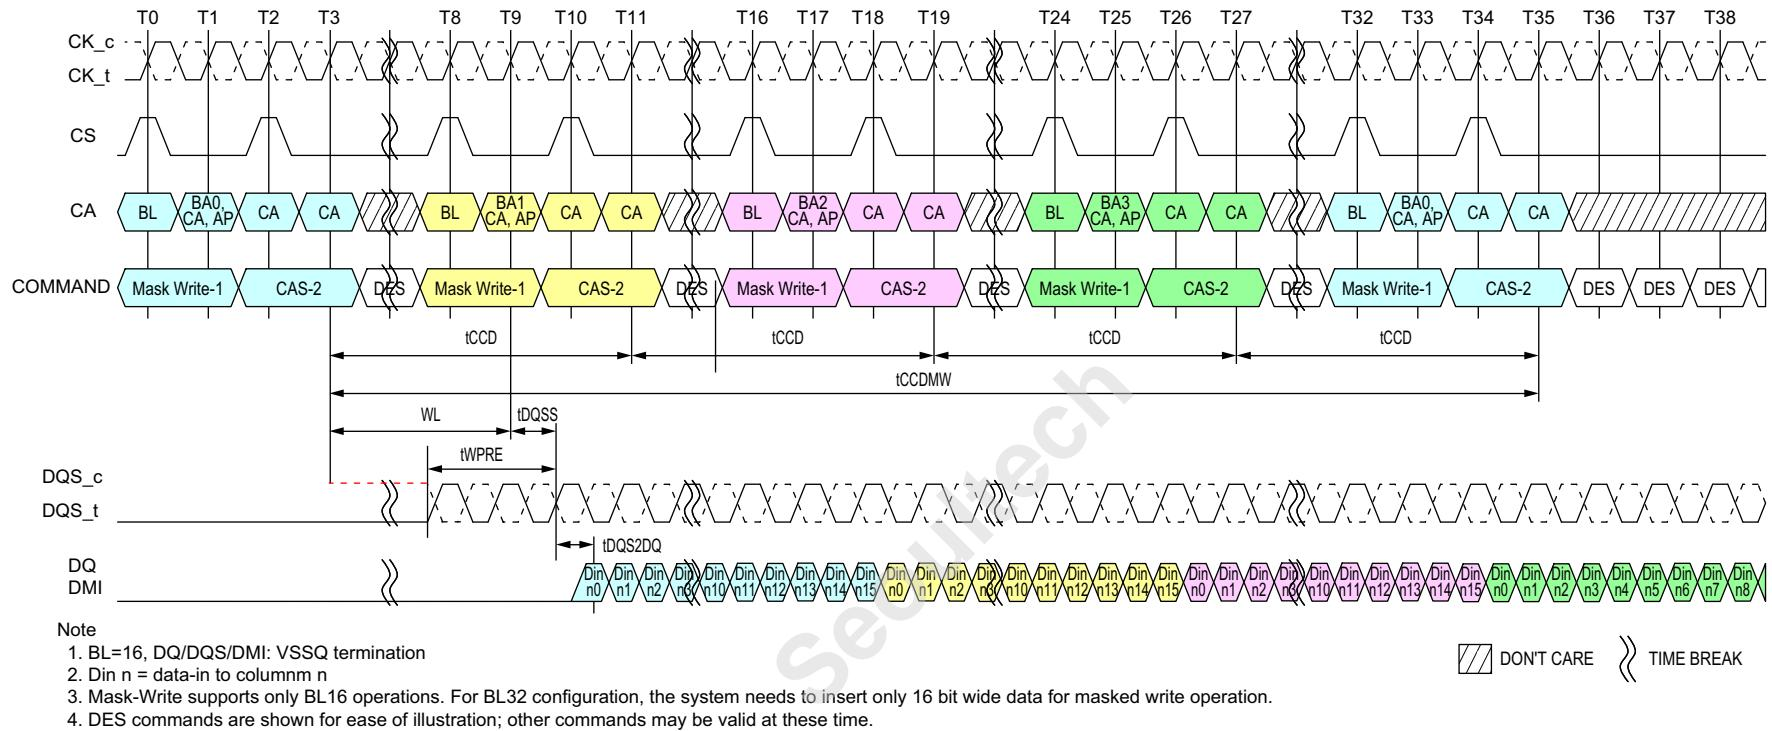

Figure 60 — Masked Write Command - Different Bank
The LPDDR4-SDRAM requires that Write operations which include a byte mask anywhere in the burst sequence must use the Masked Write command (Figure 59 and Figure 60). This allows the DRAM to implement efficient data protection schemes based on larger data blocks. The Masked Write-1 command is used to begin the operation, followed by a CAS-2 command. A Masked Write command to the same bank cannot be issued until tCCDMW later, to allow the LPDDR4-SDRAM to finish the internal Read-Modify-Write. One Data Mask-Invert (DMI) pin is provided per byte lane, and the Data Mask-Invert timings match data bit (DQ) timing. See the section on "Data Mask Invert" for more information on the use of the DMI signal.